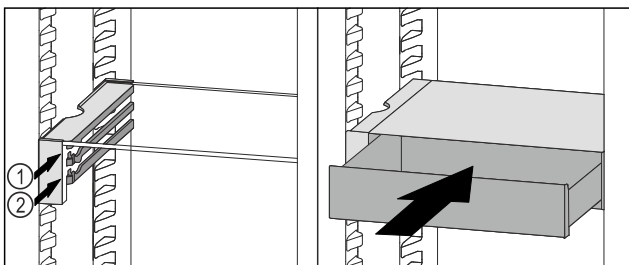

Fig. 95
- ▶ Place the VarioSafe drawer behind the stoppers on desired rib Fig. 95 (1) or Fig. 95 (2).